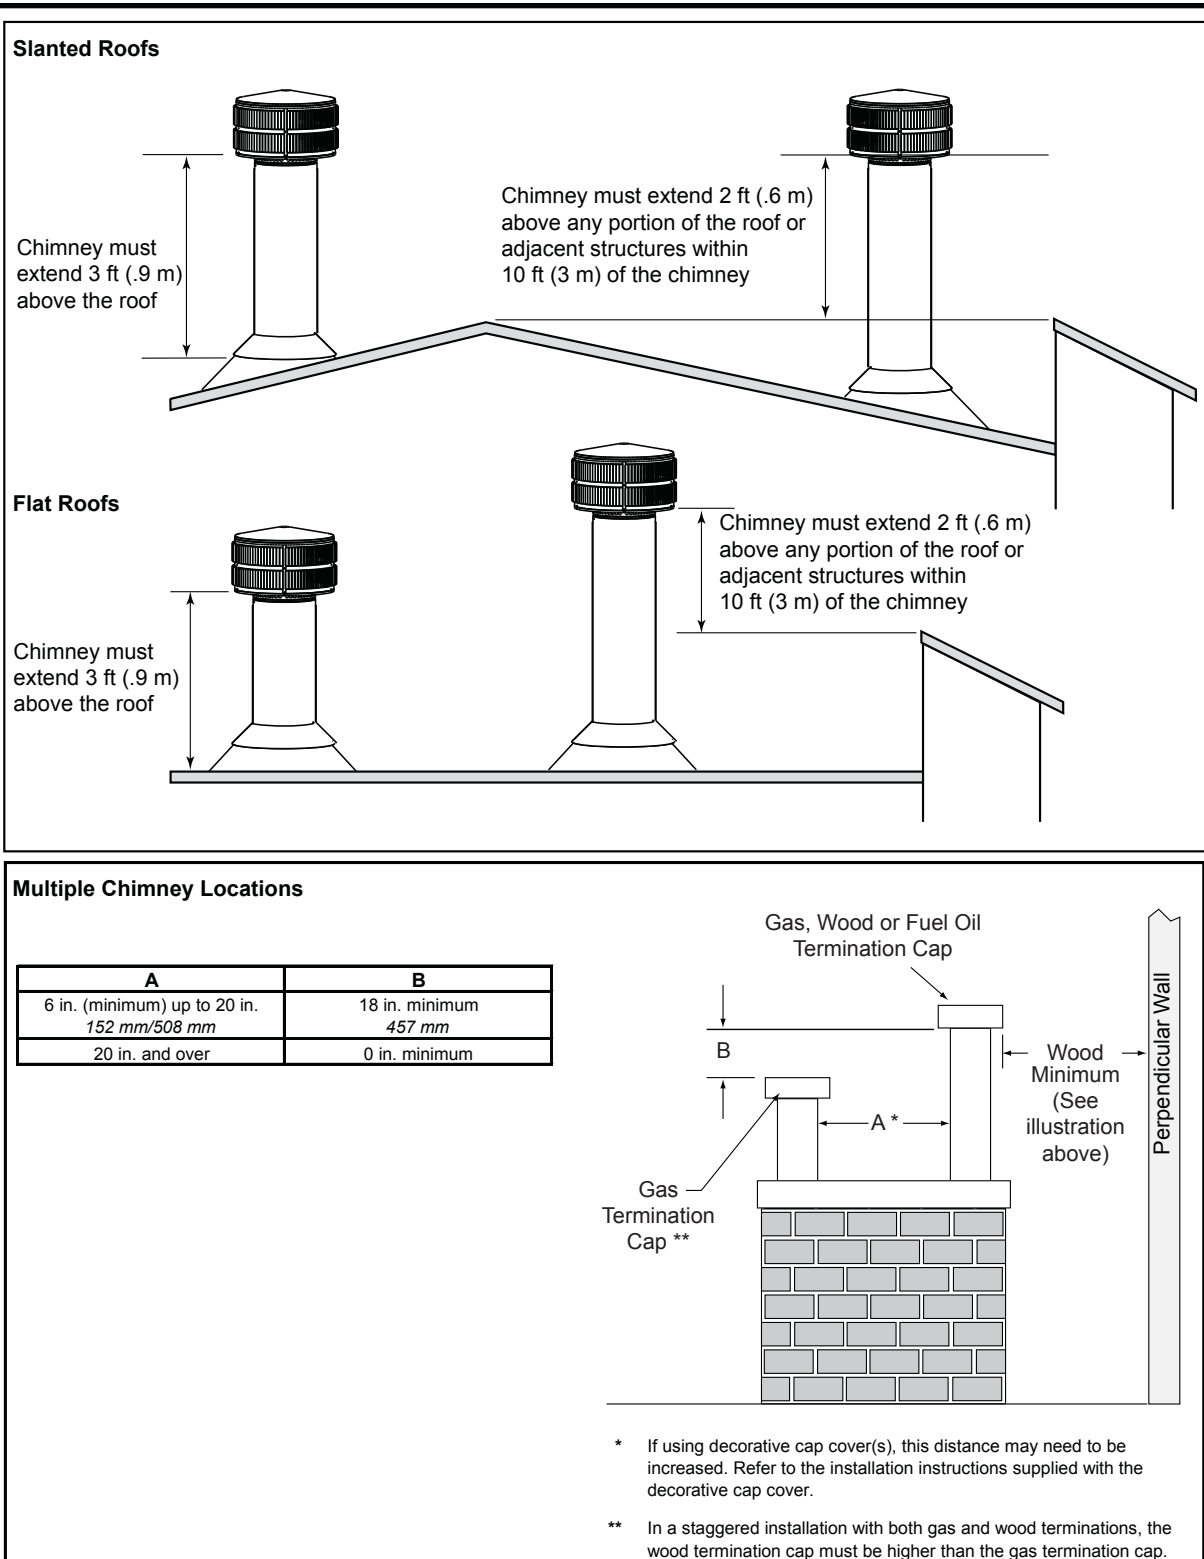

Figure 8.10 Multiple Chimney Locations
- The bottom of the termination cap must be at least 3 ft (.91 m) above the roof AND at least 2 ft (.61 m) above any portion of roof within 10 ft (3.05 m) as shown in Figure 8.10.